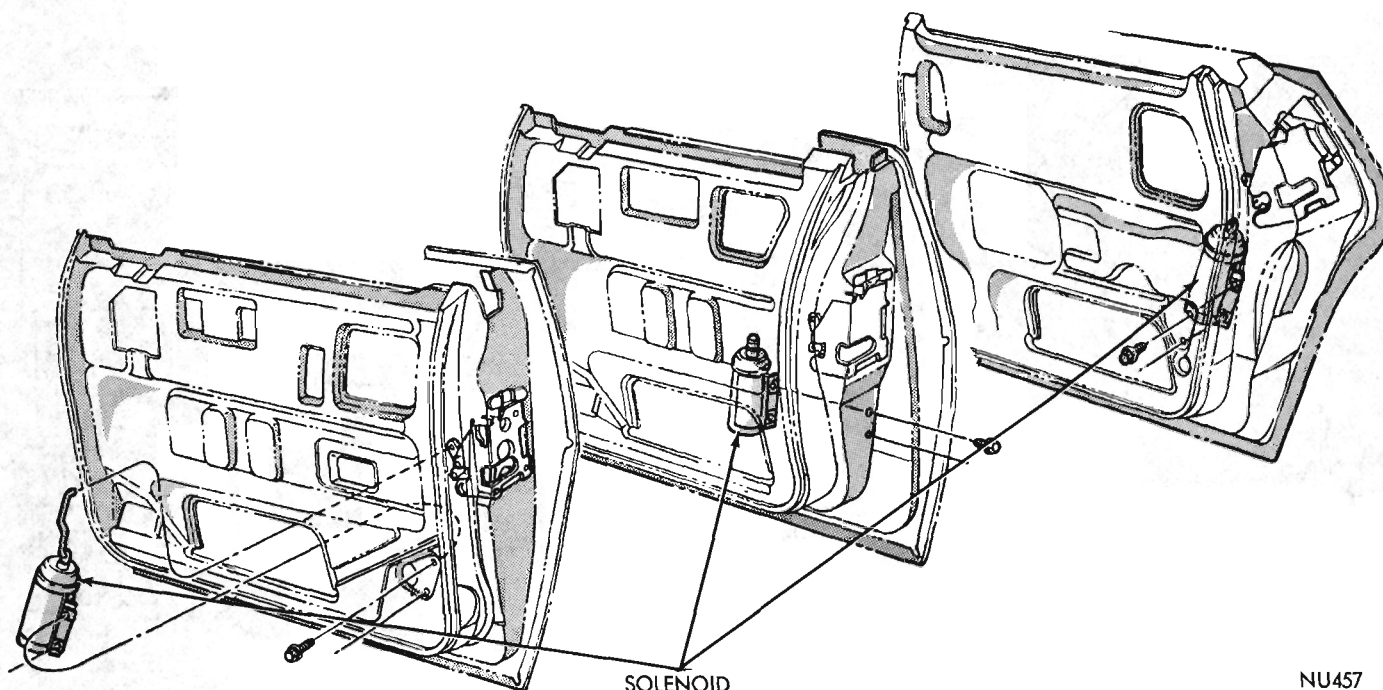

Fig. 19 - Solenoid Attachments
- (1) Loosen solenoid to mounting bracket screws (Fig. 19).
- (2) Push lock lever to down position and slide solenoid to full down position in mounting bracket.
- (3) Raise lock lever to up position, extending solenoid rod to maximum up position.
- (4) Tighten solenoid to mounting bracket screws and test operation of lock.
- (1) Disconnect solenoid link at solenoid (Fig. 19)
- (2) Remove solenoid lead wires.
- (3) Remove solenoid to mounting bracket screws and remove solenoid assembly.